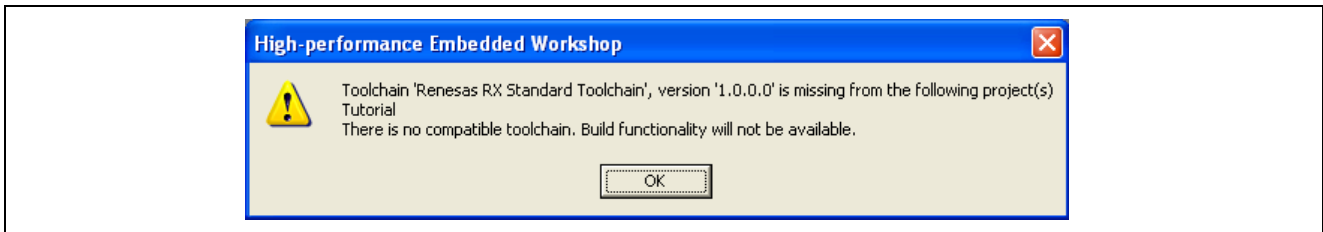

Figure 6.1 Warning Message
- (1) Why does the warning message “Toolchain ‘Renesas RX Standard Toolchain’, version ‘x.xx.x’ is missing” shown in Figure 6.1 appear after I load a workspace?